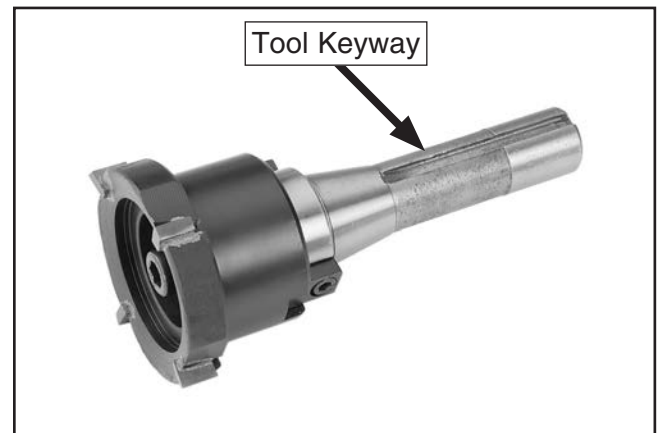

Figure 34. Example of the tool keyway.
4. Slowly rotate the tool as you insert it into the spindle until you feel the spindle key slip into the tool keyway (see **Figure 34**).